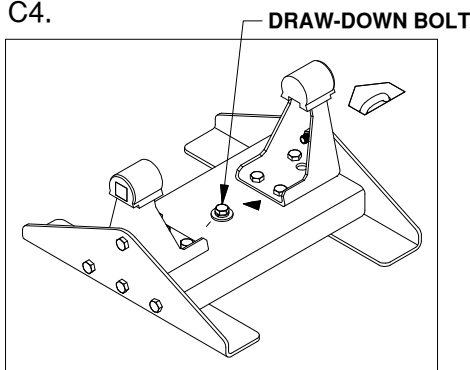

FIGURE C4. View of Companion base.
- Tighten the 1/2" x 3-1/2" draw-down bolt to 40 ft-lbs, see figure C4.